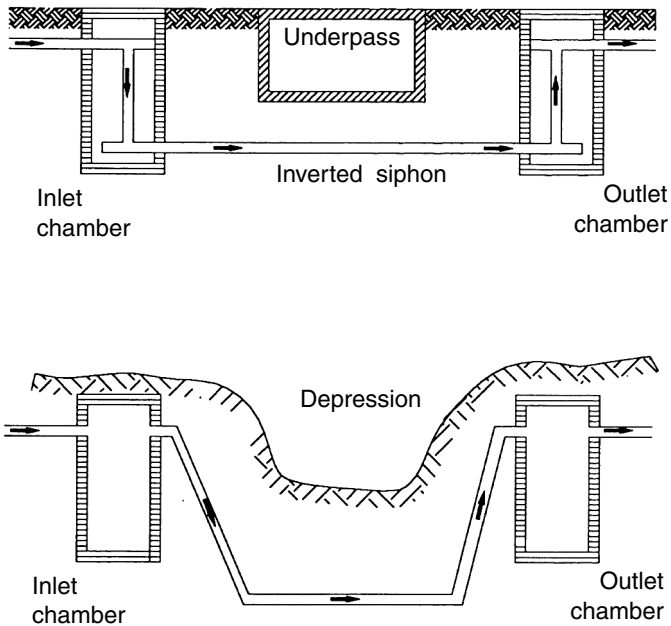

FIGURE I-2 Inverted siphons.
**depressed pipe, depressed sewer, dive culvert, sag line, or sag pipe.** **Depressed sewers** are usually designed as multiple pipes, one of which carries the minimum flow and maintains self-cleansing velocities. Besides the pipe, the inverted siphon includes inlet and outlet chambers. An inverted siphon may also be used (instead of a flume) when a canal must cross a depression. See Figure I-2.